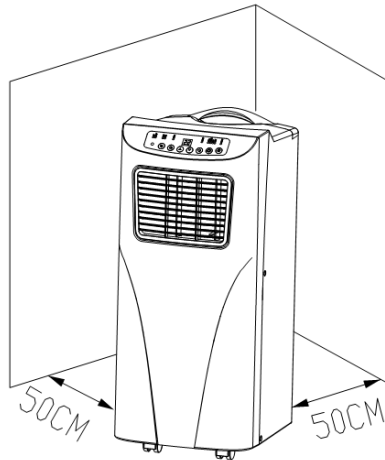

Figure 4
1) Move the machine with installed heat pipe before the window, and the distance between the body and walls or other objects shall be least 50 cm (as shown in Fig.4)